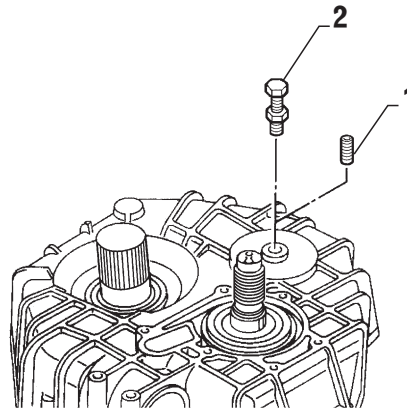

FIG. 5-5a
- a) Unscrew plug (item 1, Fig. 5-5a) from the housing.
- b) Screw in special tool (p/n 458105) (item 2, Fig. 5-5a) into intermediate shaft hole.
- h) Install mounting bolts (item 2 and 3 Fig. 5-5a) and torque them to 40 Nm (30 ft.lb.).